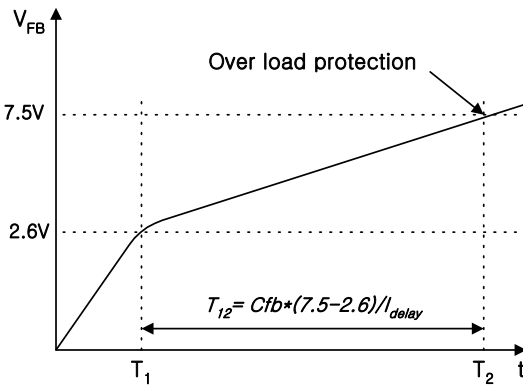

Figure 19. Over Load Protection
Overload means that the load current exceeds a pre-set level due to an abnormal situation. In this situation, the protection circuit should be activated to protect the SMPS (Switch Mode Power Supplies). However, even when the SMPS is in normal operation, the over load protection circuit can be activated during the load transition. To avoid this undesired operation, the over load protection circuit is designed to be activated after a specified period to determine whether it is a transient situation or an overload situation. Because of the pulse-by-pulse current limit capability, the maximum peak current through the SMPS is limited, and therefore the maximum input power is restricted with a given input voltage. If the output consumes beyond this maximum power, the output voltage (V_o) decreases below the set voltage. This reduces the current through the opto-coupler diode which also reduces opto-coupler transistor current increasing V_{fb} . If V_{fb} exceeds 2.6V, D1 is blocked and the 5mA current source starts to charge C_{fb} slowly compared to when the 0.9mA current source charges C_{fb} . In this condition, V_{fb} continues increasing until it reaches 7.5V, and the switching operation is terminated at that time as shown in Figure 19. The delay time for shutdown is the time required to charge C_{fb} from 2.6V to 7.5V with 5mA. When C_{fb} is 10nF (103), T_{12} is approximately 9.8ms and when C_{fb} is 0.1mF (104), T_{12} is approximately 98ms. These values are enough to prevent SMPS from being shut down during transient situations.